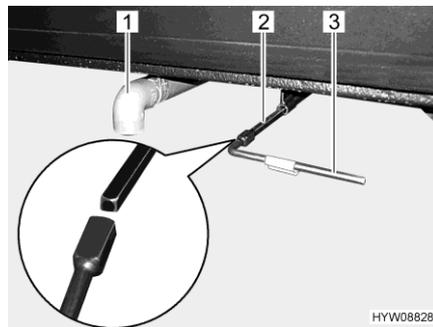

Fig. 105 Operating lever and drain pipe (waste water tank)
- Place the drain pipe (Fig. 105,1) directly over the disposal station or place the waste water hose (optional equipment) onto the drain pipe (Fig. 105,1).
- Open the drain cock. To do this, attach the supplied square spanner (Fig. 105,3) onto the square of the drain cock (Fig. 105,2).
- Turn the square spanner (Fig. 105,3) a quarter turn anticlockwise. The waste water is drained.
- After the waste water has drained off: Close the drain cock again. To do this, turn the square spanner (Fig. 105,3) a quarter turn clockwise.
- Remove and store away the square spanner (Fig. 105,3).